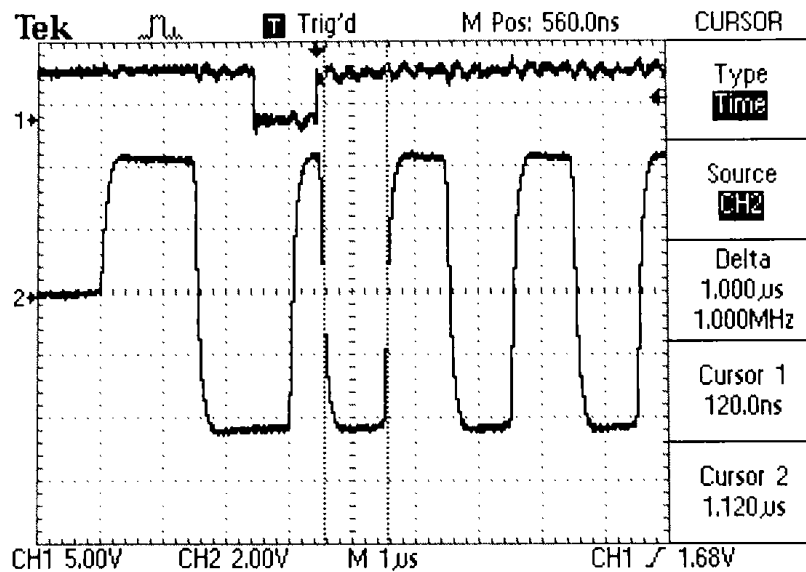
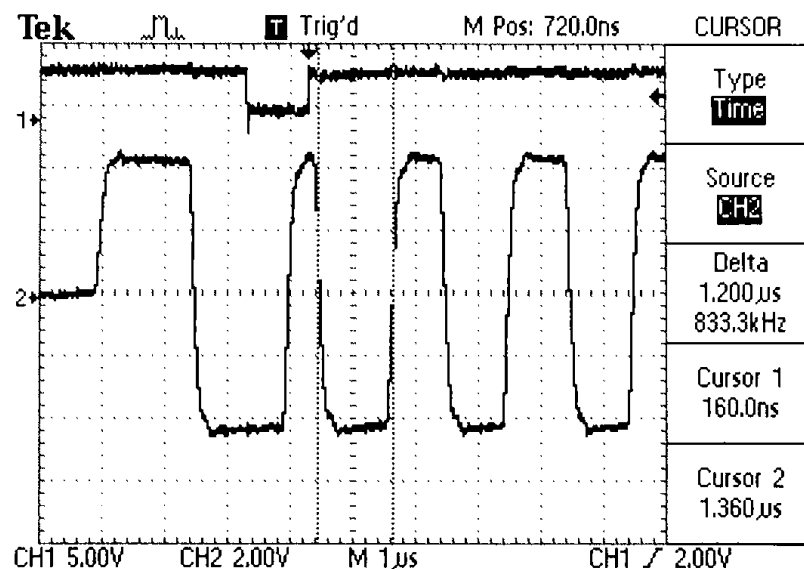

Figure 455-22: Valid mid-bit Transition
Figure 455-23: Invalid mid-bit Transition
Valid Mid-bit Transition Time. Follow the steps below to check for a valid mid-bit transition of $150\text{ns} \pm 70\text{ ns}$. Refer to Figure 455-22.
3. Verify that there is an invalid bit time. Refer to Figure 455-22 for a valid mid-bit transition. Refer to Figure 455-23 for the invalid mid-bit transition.